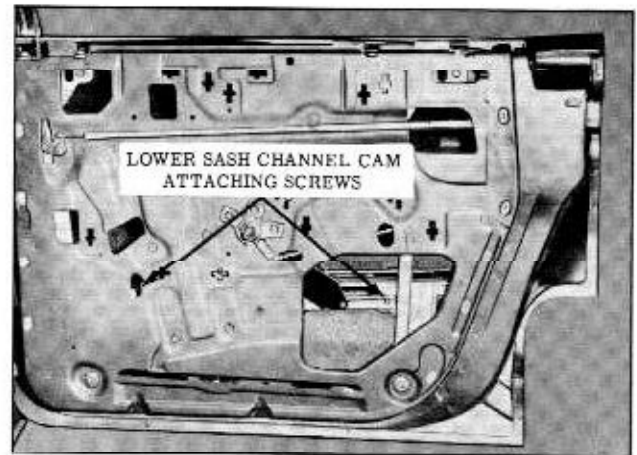

Fig. 17-50 Rear Door Lower Sash Channel Cam Attachment
- Lower door window sufficiently to gain access to lower sash channel cam attaching screws through access holes in door inner panel and remove screws. (Fig. 17-50)
3. Lower door window and remove lower sash channel cam attaching screws. (Fig. 17-50)